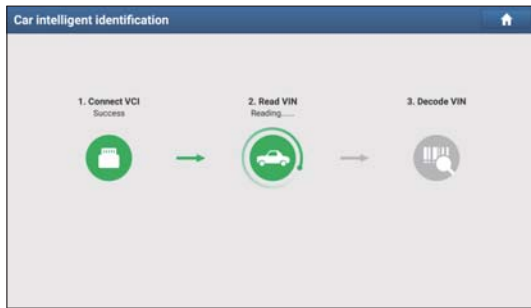

Fig. 5-6
1. Tap "Intelligent Diagnose" on the Job Menu to enter Fig. 5-6.